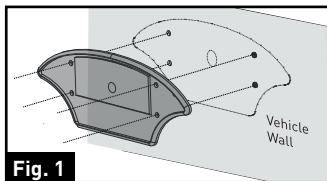

Fig. 1
1. Select a suitable mounting position where you are going to install the doorway camera. Mark a basic outline using the provided bracket gasket. (Fig. 1)